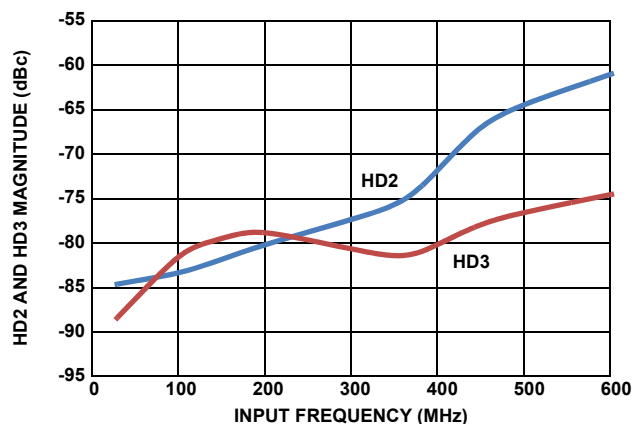

FIGURE 15. HD2 AND HD3 vs  $F_{IN}$  USING 500MSPS CLOCK AND TARGETING -1dBFS
4. HD3 has improved to -93dBc from a typical -88dBc looking at Figure 15 at 40MHz